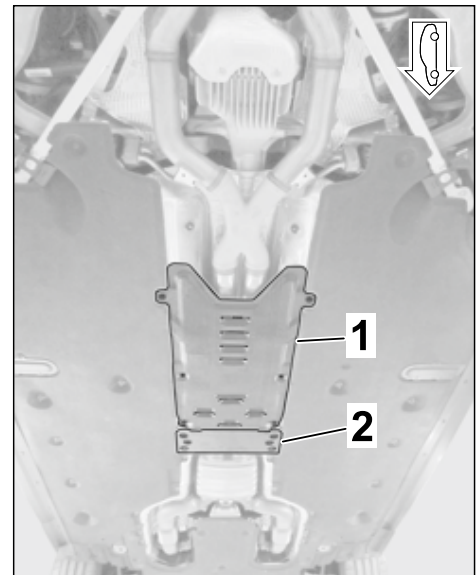

Figure 21
- 3.1.1 Remove tunnel cover on –center–underbody and loosen cover for center underbody –left/right side– (⇒ *Workshop Manual '519319 Removing and installing cover for centre underbody'*, ⇒ *Figure 21 -1-*).
- 3.1.2 Remove tunnel strut (10 x hexagon-head bolt, M10 x 45 ⇒ *Figure 21 -2-*) ⇒ *Workshop Manual '260119 Removing and installing exhaust system'*).